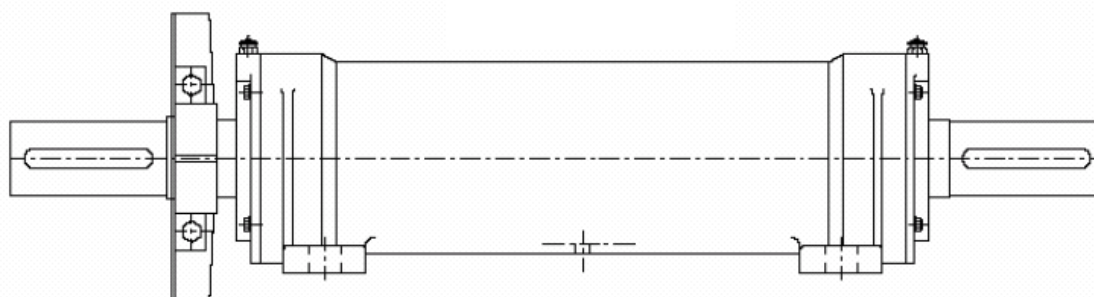

Fig. 10-10 Support with cooling fan
- 1.- For supports with a cooling fan installed, the cooling fan must first be dismantled (Fig. 10-10).